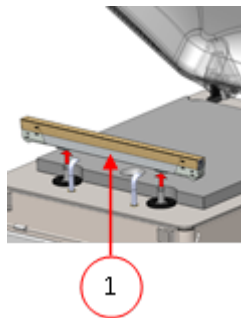

Figure 25: Removing the Sealing Bar (Plastic Lid)
On machines with a plastic lid, the sealing bars are mounted on cylinders (Figure 25: Removing the Sealing Bar (Plastic Lid) on page 71). On machines with a metal lid, the sealing bars are mounted in the lid (Figure 26: Removing the Sealing Bar (Metal Lid) on page 71).
1. Remove the sealing bar by lifting it from the cylinders. See Figure 25: Removing the Sealing Bar (Plastic Lid) on page 71.
Plastic lid Lift the sealing bar from the cylinders. See Figure 25: Removing the Sealing Bar (Plastic Lid) on page 71.